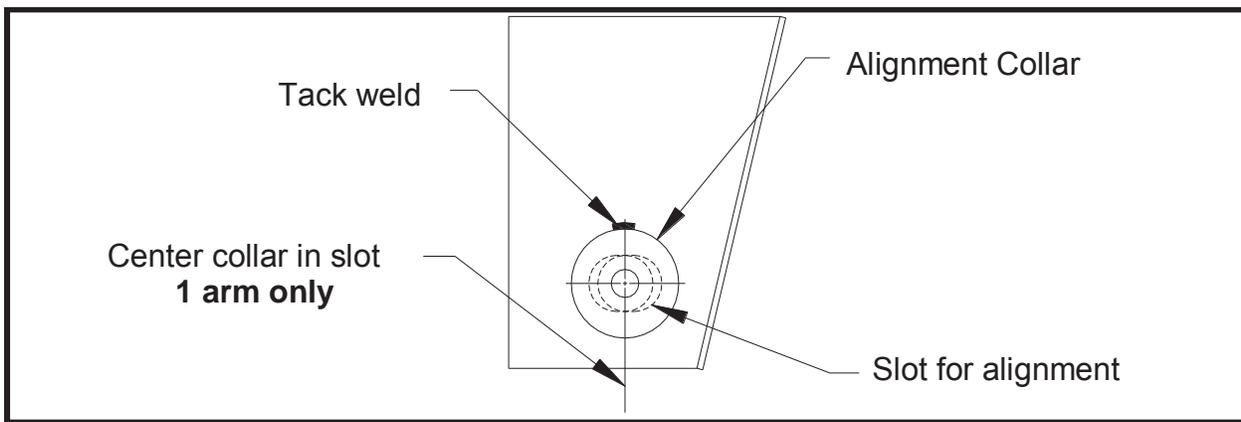

Figure 16
3. Move one of the suspension arms to the middle of the adjustment slot and tack weld where shown in **Figure 16**.